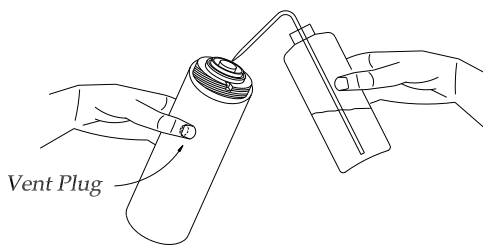

Fig. 5.1.5
4. To prevent contamination from the old electrolyte, rinse out the gas sensor interior twice with a small amount of fresh electrolyte (fig. 5.1.5)